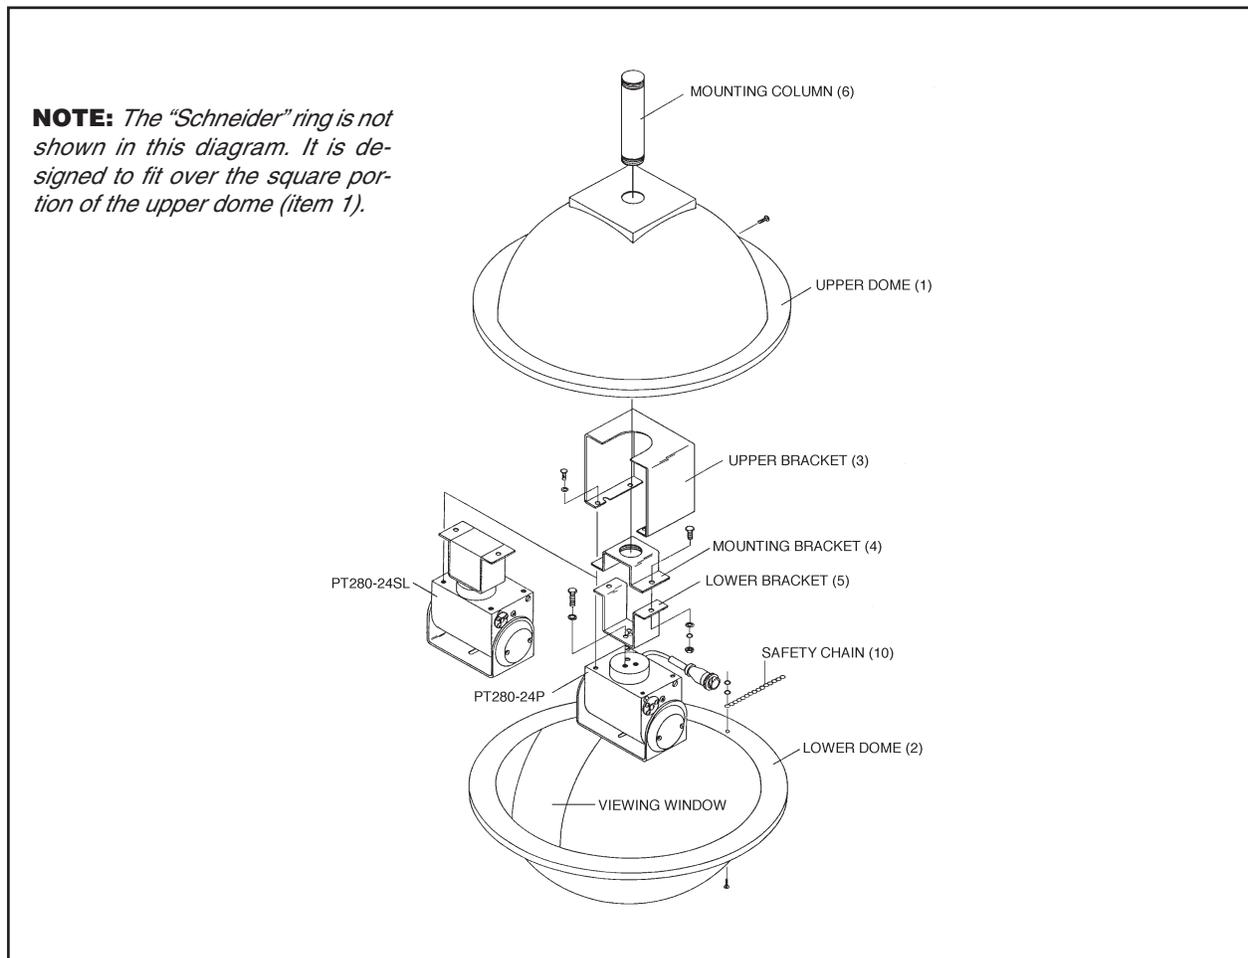

**Figure 4.** Locking the Pipe Nut
**NOTE:** When installing a PT280-24SL pan/tilt with the slip ring option you will need to remove one (1) of the 1/4-20 fasteners holding the mounting flange to the SL2800 bracket. Pivot the pan/tilt assembly to one side to allow the connector and cable to pass through. After the connection is made, pull the connector back up into the pipe and reattach the mounting flange.
2. Screw the mounting flange (item 4, Figure 5) onto the pipe and tighten to approximately 20 ft lb. Tighten the 8-32 screw in the pipe nut to lock the pipe threads (refer to Figure 4).